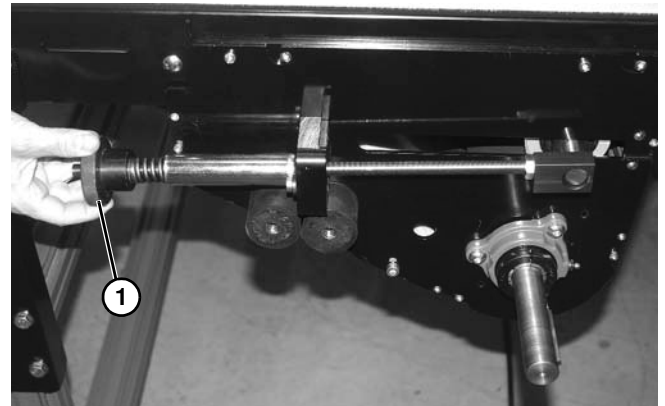

Figure 74
5. Loosen tension on drive belt by rotating tensioning knob (**Figure 74, item 1**) counterclockwise on both sides of conveyor.